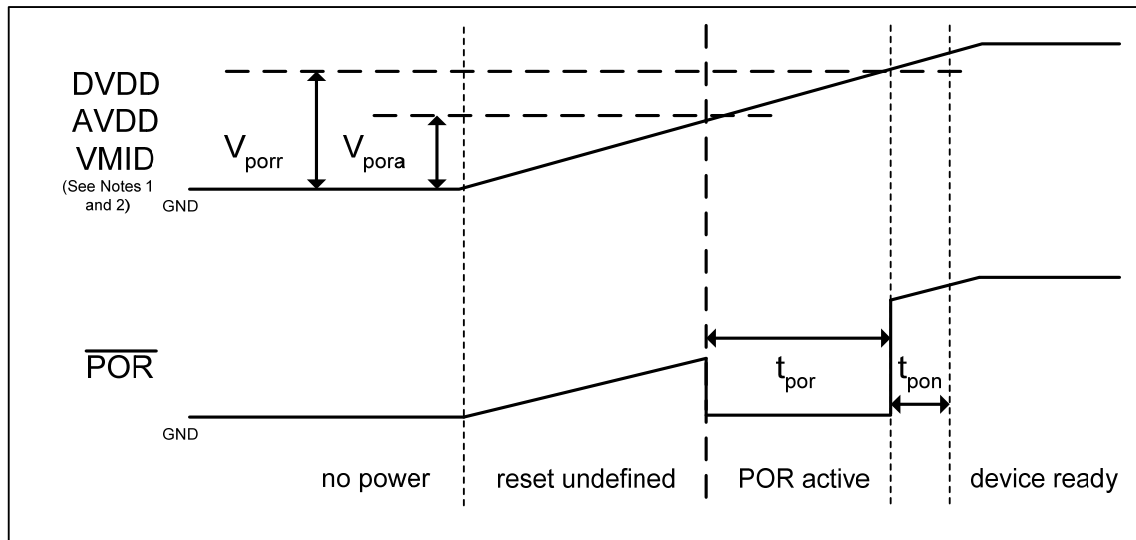

Figure 11 Power Supply Timing Requirements – Power-on
- POR is activated when DVDD or AVDD or VMID reach their stated V_{pora} level (Figure 11)
- POR is only released when DVDD and AVDD and VMID have all reached their stated V_{porr} levels (Figure 11).